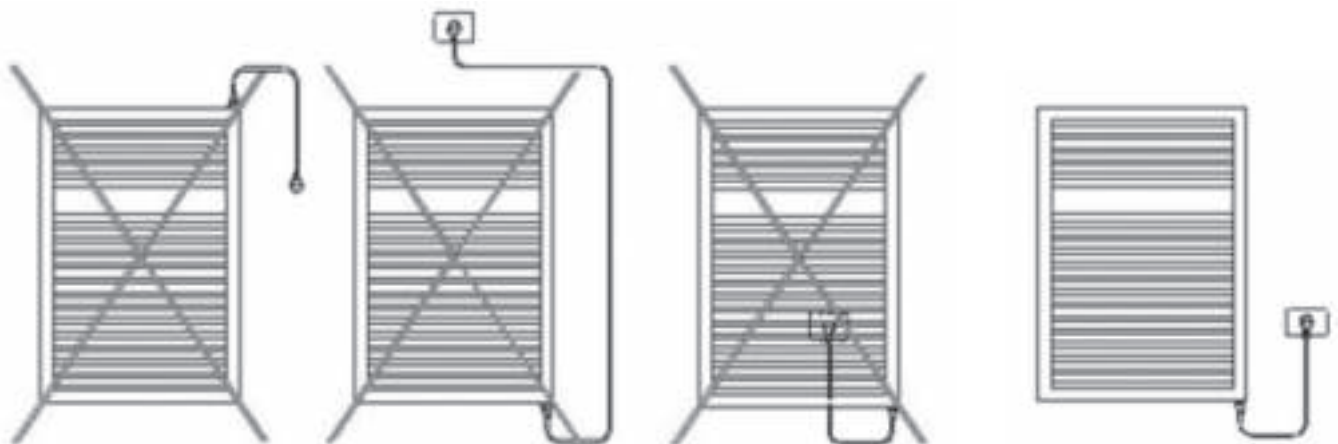

Fig. 3
- Check the correct installation according to Figure 3.